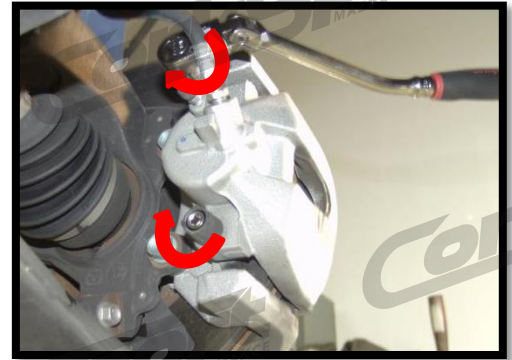

Figure 2c
- c) Hand thread the caliper slide pins into the bracket using a 7mm Allen socket (Figure 2c).
- c) Line the caliper up with the bracket and hand thread the caliper slide pins into the bracket using the 7mm Allen socket (Figure 2c).